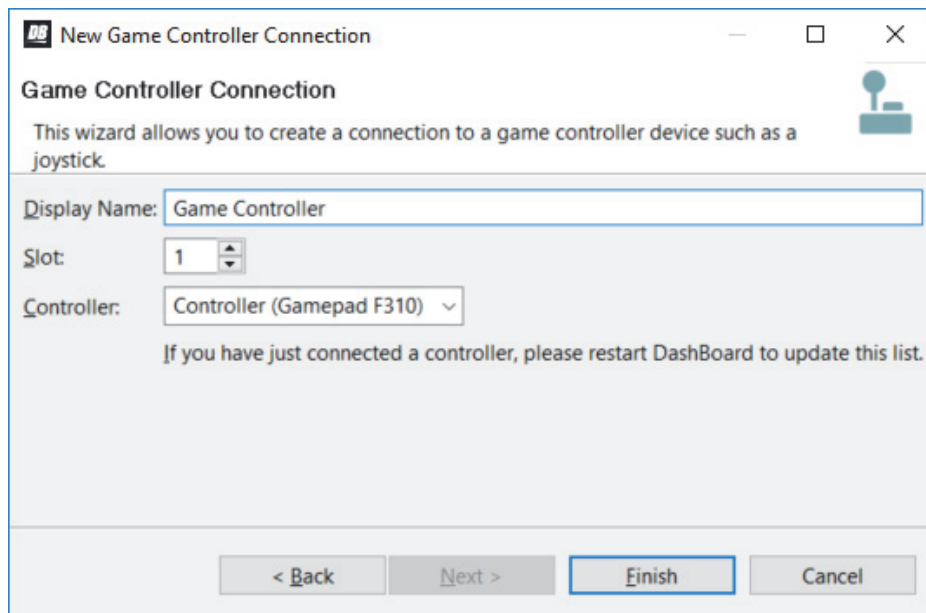

Figure 34 - Connecting to a USB controller
5. In the **Wizards** list, expand **Input Devices**, select **New Game Controller**, and then tap **Next**. The **New Game Controller Connection** dialog box appears (Figure 34).